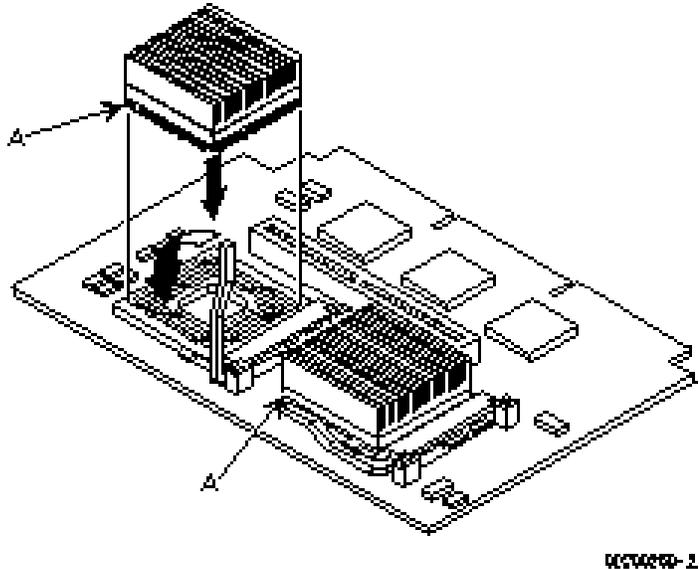

Figure 3. Installing a Second CPU Chip
2. Install the CPU chip (Figure 3). The arrangement of the pins is keyed for correct placement. The chip also has a beveled corner (A), which may be different on your board.